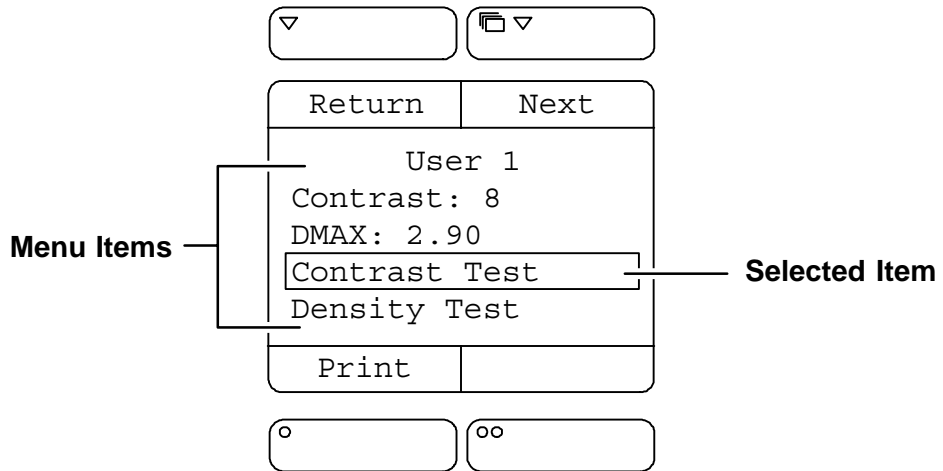

Figure 2-6. User Settings Menu – Contrast Test Selected
- If Contrast Test or Density Test is selected, the Print label is displayed. Refer to Figure 2-6.